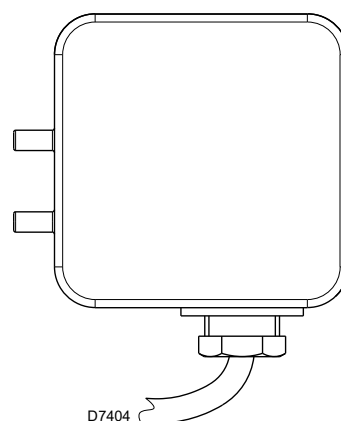

Fig. 23
- Adjust the air pressure switch (Fig. 23) to the start of the scale.
Adjust the air pressure switch (Fig. 23) after performing all other burner adjustments with the air pressure switch set to the start of the scale. With the burner function at the required output, turn the knob slowly in a clockwise direction until burner lockout.